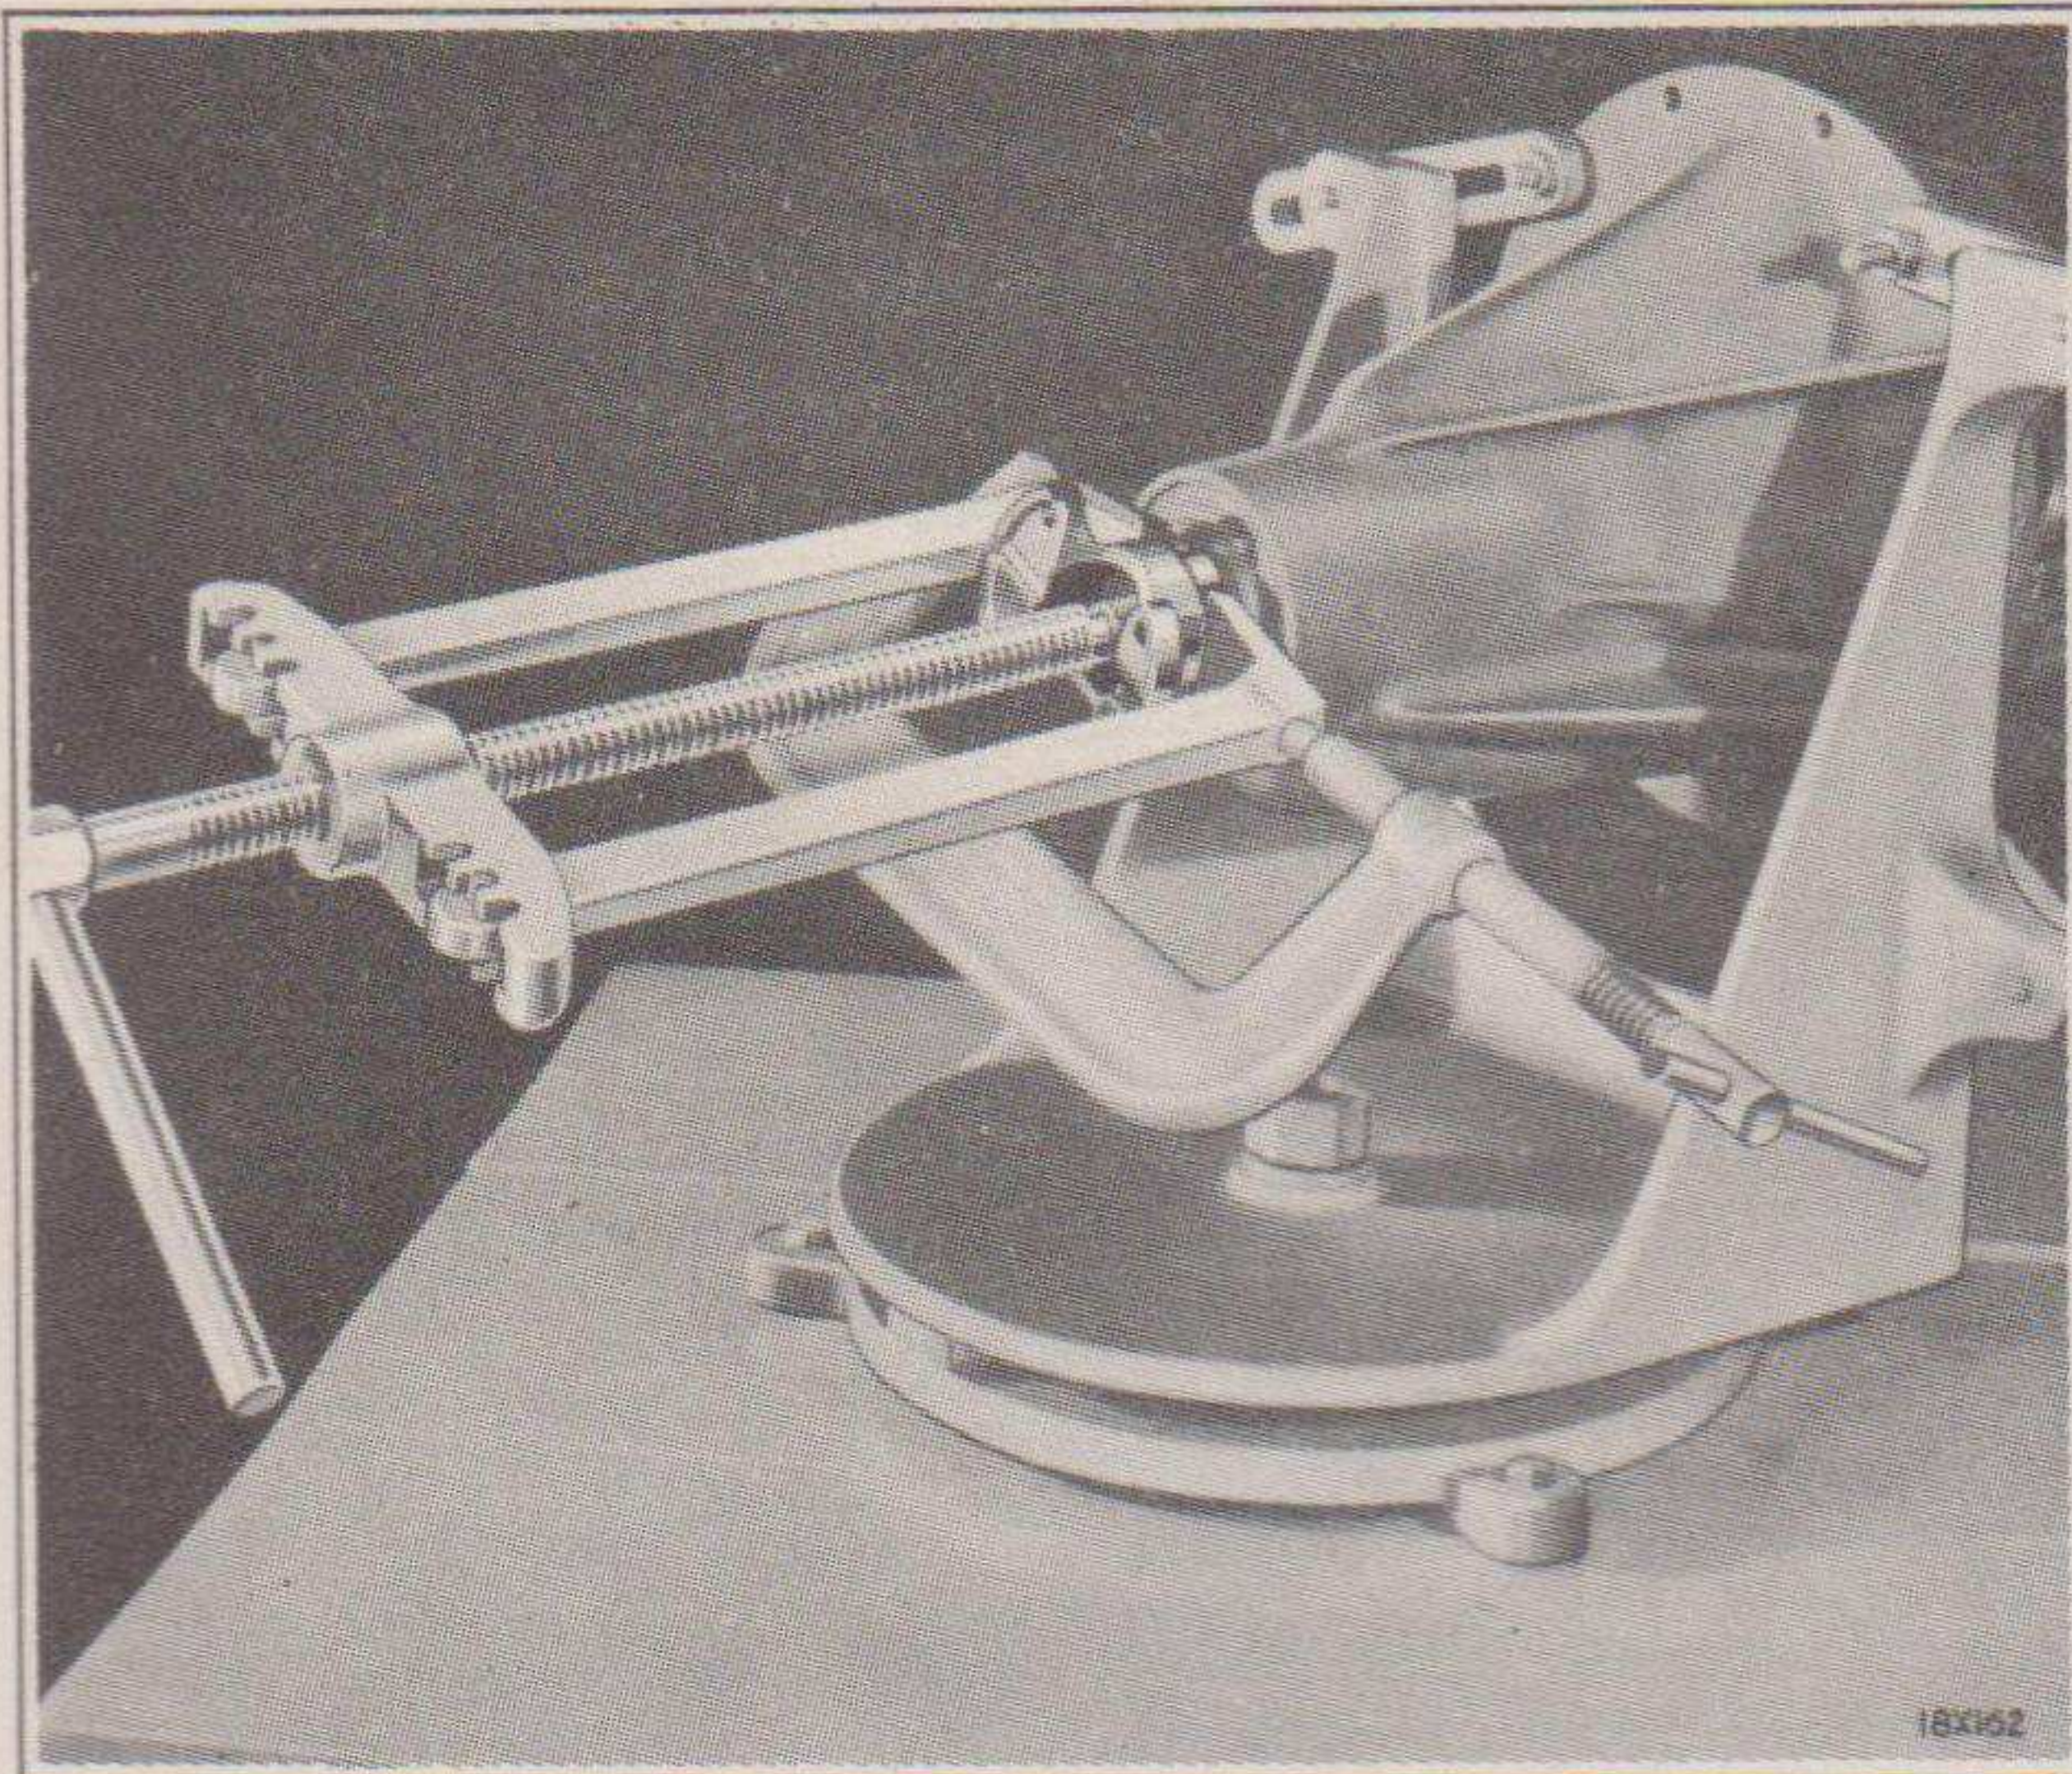

Fig. 59—Removing Propeller Shaft Companion Flange or Yoke (Tool CM-549)
flange using special tool CM-549 as shown in Fig. 59.
- (b) Remove the propeller shaft companion flange nut, holding the flange with spanner wrench No. C-525, and pull the flange off the pinion shaft with special tool CM-549 (Fig. 59).